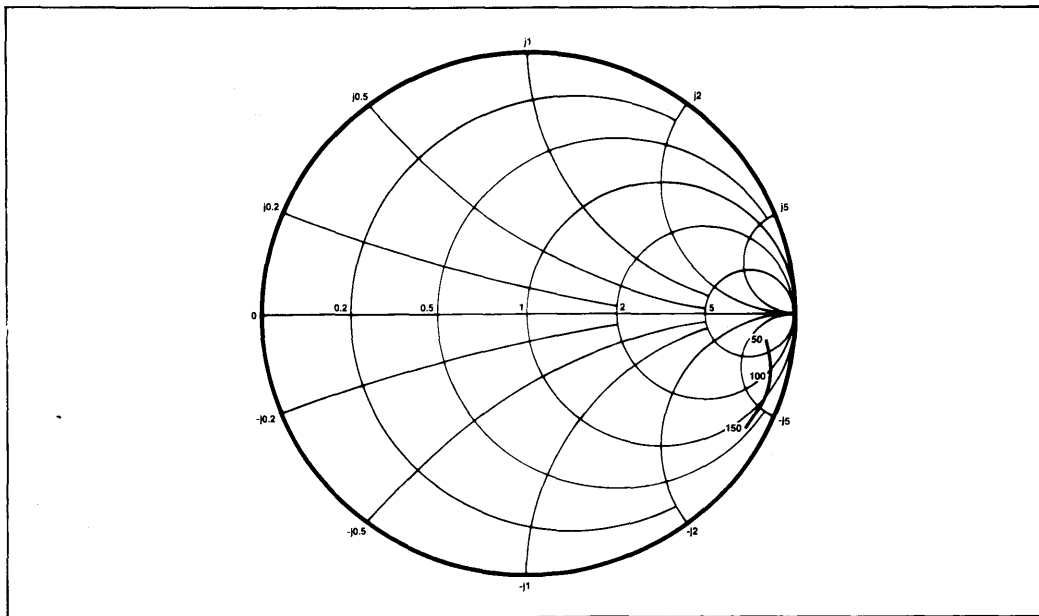

Fig.4 Typical input impedance. Test conditions: supply voltage 5.0V, ambient temperature 25°C, frequencies in MHz, impedances normalised to 50 ohms
5. Input impedance is a function of frequency. See Fig.4.